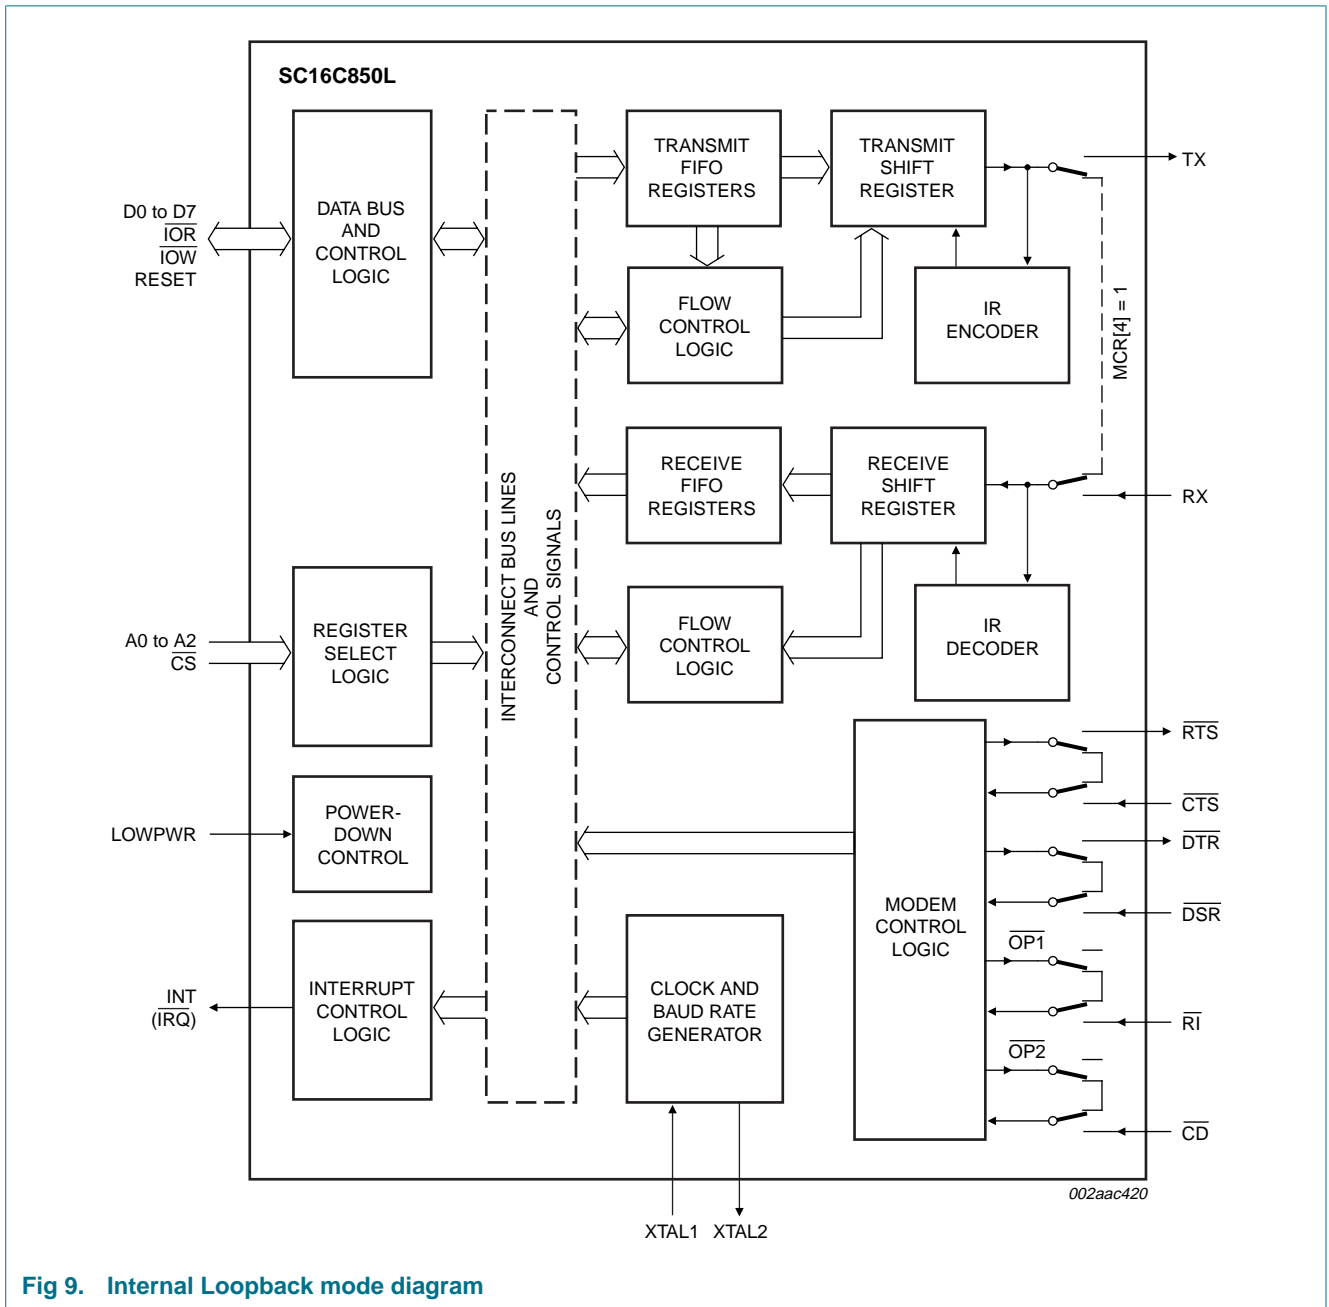

Fig 9. Internal Loopback mode diagram
The internal loopback capability allows on-board diagnostics. In the Loopback mode, the normal modem interface pins are disconnected and reconfigured for loopback internally (see Figure 9). MCR[3:0] register bits are used for controlling loopback diagnostic testing. In the Loopback mode, the transmitter output (TX) and the receiver input (RX) are disconnected from their associated interface pins, and instead are connected together internally. The  $\overline{CTS}$ ,  $\overline{DSR}$ ,  $\overline{CD}$ , and  $\overline{RI}$  are disconnected from their normal modem control input pins, and instead are connected internally to  $\overline{RTS}$ ,  $\overline{DTR}$ , MCR[3] ( $\overline{OP2}$ ) and MCR[2] ( $\overline{OP1}$ ). Loopback test data is entered into the transmit holding register via the user data bus interface, D[7:0]. The transmit UART serializes the data and passes the serial data to the receive UART via the internal loopback connection. The receive UART converts the serial data back into parallel data that is then made available at the user data interface D[7:0]. The user optionally compares the received data to the initial transmitted data for verifying error-free operation of the UART TX/RX circuits.